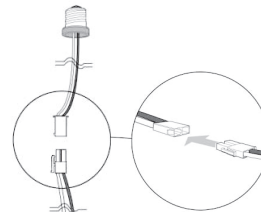

Figure 2 - Connect Edison-style connector
4. Connect the included Edison-style connector to the IR6-600WH module (as shown in Figure 2).